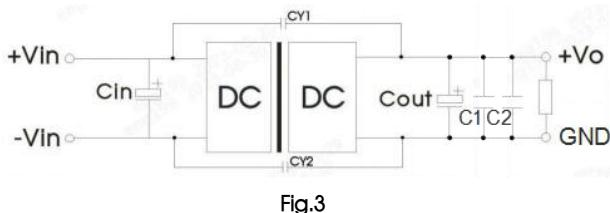

Fig.3
① The test method of ripple and noise adopts the measurement method, and the peripheral circuit is recommended to refer to Figure 3.